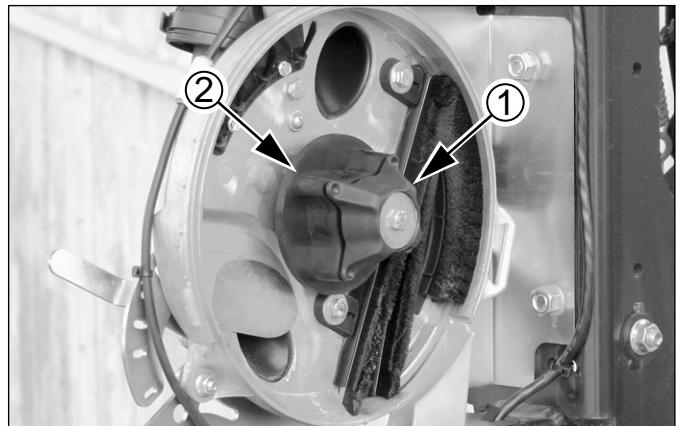

Figure 64
Refer to Figure 64 (depicting an empty meter)
1. Remove rain cover. If seed is present, close shutter ④ to prevent more seed from entering meter. Attach funnel (page 76) or place a tarp under the row to collect seed.
2. Hold seed disk in meter. Rotate disk clamp ① counterclockwise 45° to release disk.
4. Clean seed from all brushes. Clean disk seat (② in *Figure 64* page 57), so that new disks can seat fully. Inspect brushes for excess wear and damage. See “**Meter Brush Maintenance**” on page 77.